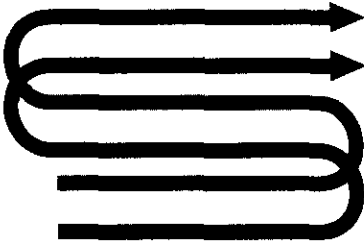
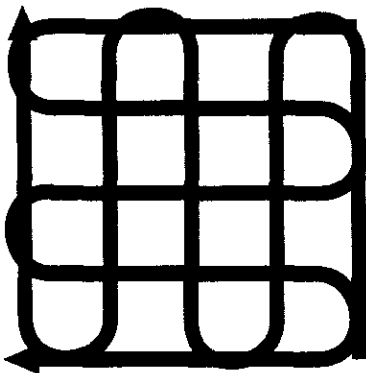

Figure 3-15
Figure 3-16
- When preparing a seedbed, go over the same path twice in the first row, then overlap one-half the tiller width on the rest of the passes (see Figure 3-15). When finished in one direction, make a second pass at a right angle as shown in Figure 3-16. Overlap each pass for best results (in very hard ground it may take three or four passes to thoroughly pulverize the soil).